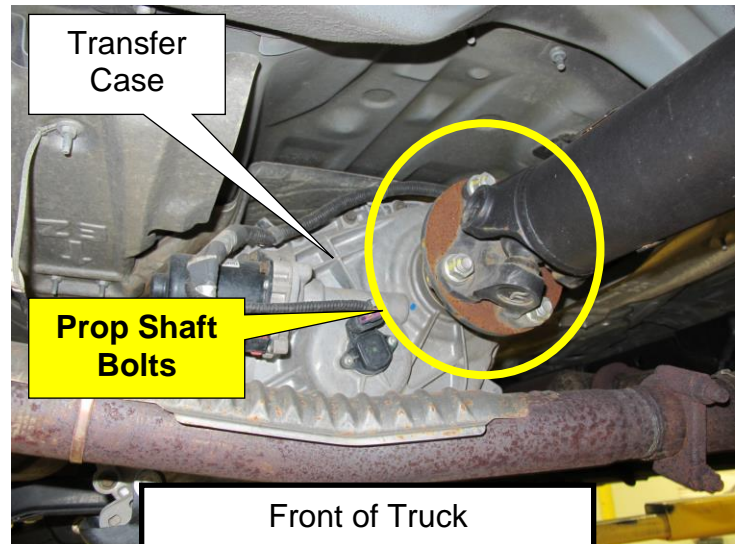

Figure 1
1. Locate the (4) rear prop shaft bolts at the transfer case (Figure 1).